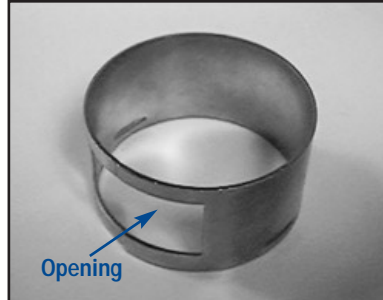
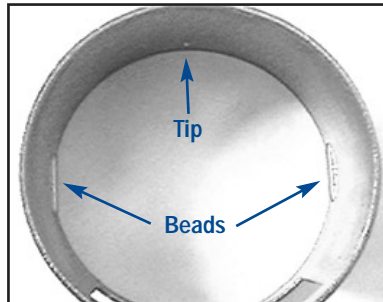
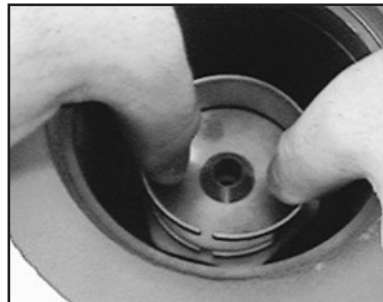
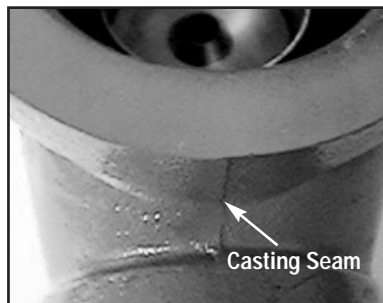

Figure 1-Loading Ring
Figure 2-Loading Ring Retention
Figure 3-Removing the Loading Ring
Figure 4-Aligning the Loading Ring
The purpose of the loading ring (Figure 1) and deflector ring is to draw gas from the underside of the diaphragm. The objective is to lower pressure under the diaphragm as the spring loses compression. The loss in spring compression occurs as the diaphragm drops to open the valve. Lowering of the pressure under the diaphragm relative to the downstream pressure strokes the valve open, thus delivering more gas to the downstream and effectively raising (or boosting) the pressure.
The CL34 is equipped with a ported metal loading ring (Figure 1). It is a heat-treated spring steel stamping with two beads (Figure 2) which fit into a groove on the orifice. The orifice also has a radial notched shoulder into which a tip (Figure 2) on the ring rests. This locks the ring from turning after it has been positioned.
thumbs (Figure 3). Insert the loading ring on the orifice with the center of the loading ring opening (Figure 1) aligned with the casting seam (Figure 4). The loading ring is now in the 0° position.
- Using two thumbs as shown in Figure 3, rotate the loading ring the required number of notches.